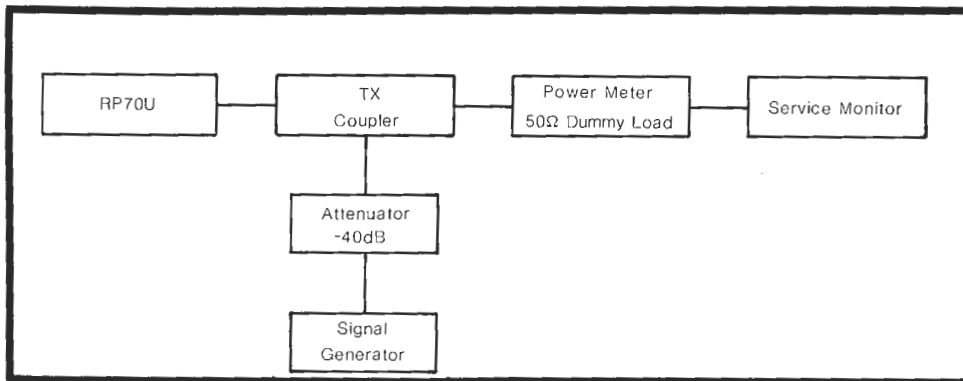

FIGURE 11. TN34 ENCODER TEST SETUP
1. Connect the test equipment as shown in Figure 11. Ensure that the power supply is set to 120 VAC.